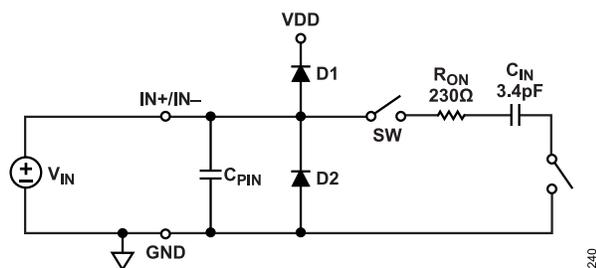

Figure 43. Equivalent Analog Input Circuit
Figure 43 shows an equivalent circuit for each of the AD4062 analog inputs (IN+ and IN−). The analog inputs are modeled as a switched capacitive load. During the acquisition phase, the sampling switch (SW) connects each input pin to the 3.4pF sampling capacitor ( $C_{IN}$ ) in series with the 230Ω switch on resistance ( $R_{ON}$ ). During the conversion phase, SW disconnects to sample the voltages on the IN+ and IN− pins onto the sampling capacitors. D1 and D2 represent the ESD diodes from the IN+ and IN− pins to the VDD supply and GND, respectively.  $C_{PIN}$  represents the pin capacitance of each input pin to GND and is typically 2pF.